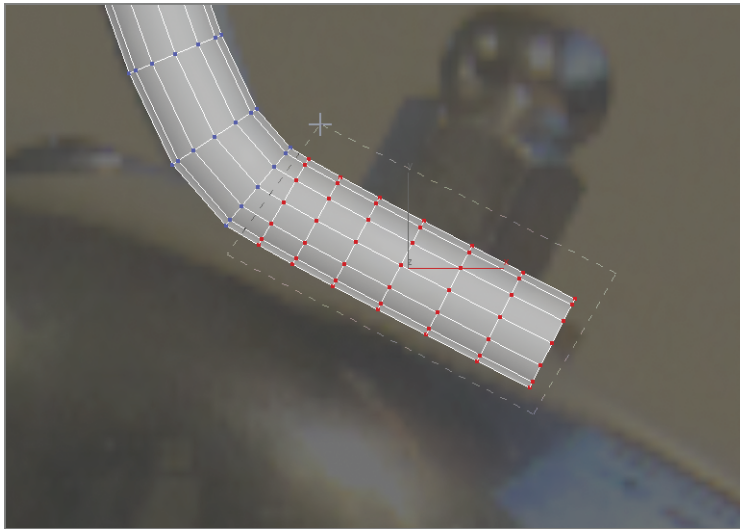

FIGURE 2.26 Use the Fence Selection Region to draw a selection around the desired vertices.
19. Drag a custom selection from the end of the handle line past the seventh row of vertices, as shown in Figure 2.26.